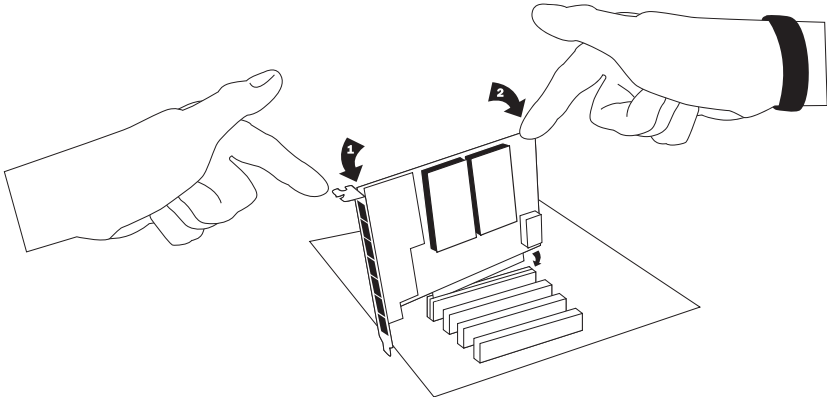

Figure 5: Insert the Card
3. Remove the bracket place holder and insert the card into a PCI (TDM800P) or PCI Express (AEX800) slot. See Figure 5.